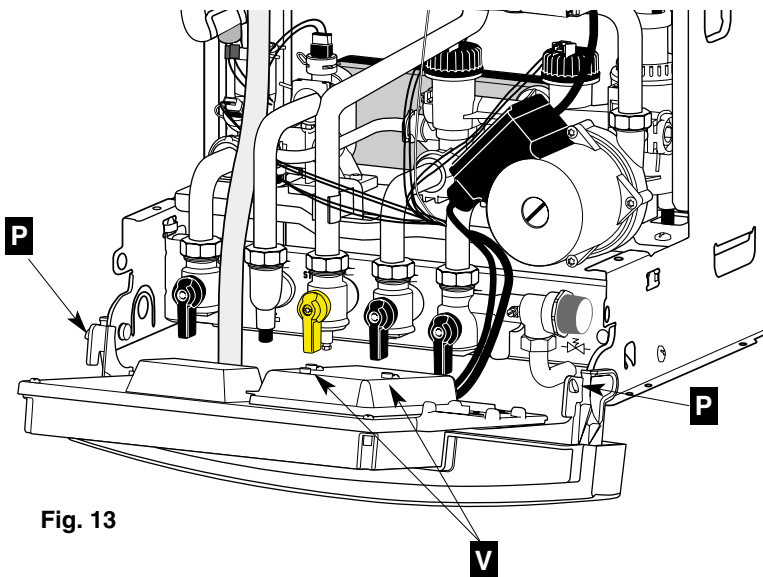
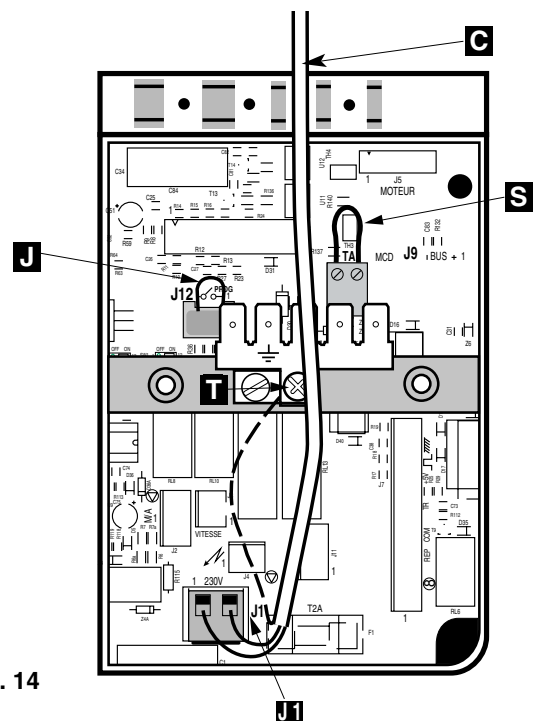

Fig. 13
Fig. 14
- Push in the tabs "**P**" (Fig. 13) on either side of the boiler and pivot the electrical box forward to gain access to the valve connections
Lower the electrical box to gain access to the electrical connections. Push in the tabs **P** (Fig. 13) on either side of the boiler and pivot the box forward. Undo the two retaining screws **V**, remove the cover and remove the cable clamp. **C** (Fig. 14)
Connect the live and neutral wires to the multipin plug **J1** (Fig. 14) leaving sufficient earth wire to connect to the earthing point **T** (Fig. 14).
If using a room thermostat or other external control, they can be connected in place of the link **S** (Fig. 14) on the multipin Plug.
Connect the multipin plug into the socket on the printed circuit board. Secure the cable using the cable clamp and replace the cover. NB The room thermostat options setting can be made before replacing the electrical box cover **1** (Fig. 14).